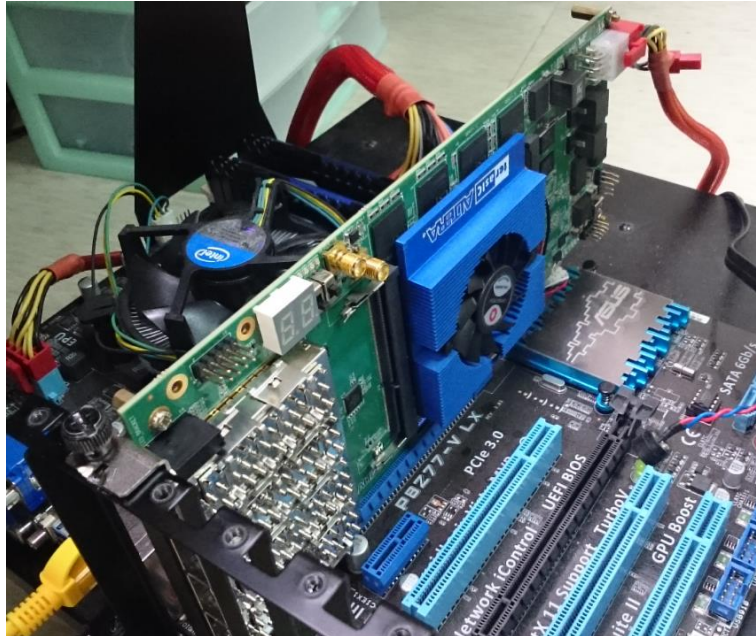

Figure 1-9 FPGA board installation on PC
1. Install the FPGA board on your PC as shown in **Figure 1-9**.